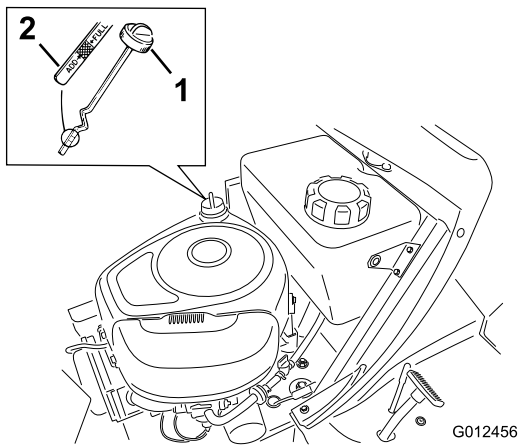

Figure 25
7. Clean around the dipstick (Figure 25) so that dirt cannot fall into the filler hole and damage the engine.
8. Unscrew the dipstick and wipe the metal end clean (Figure 25).
9. Screw the dipstick fully onto the filler tube (Figure 25).
11. Clean around the dipstick and unscrew the cap (Figure 25).
12. Slowly pour approximately 80% of the engine oil into the filler tube (Figure 25).